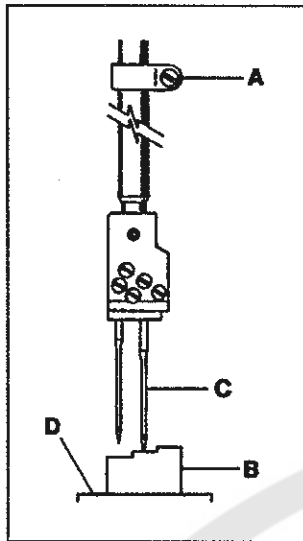

FIG. 3
Position the needle bar at its highest point of travel. Loosen needle bar clamp screw (A, FIG.3) & use the specified needle bar height gauge (B) to achieve the desired height dimension from the fourth (lowest)